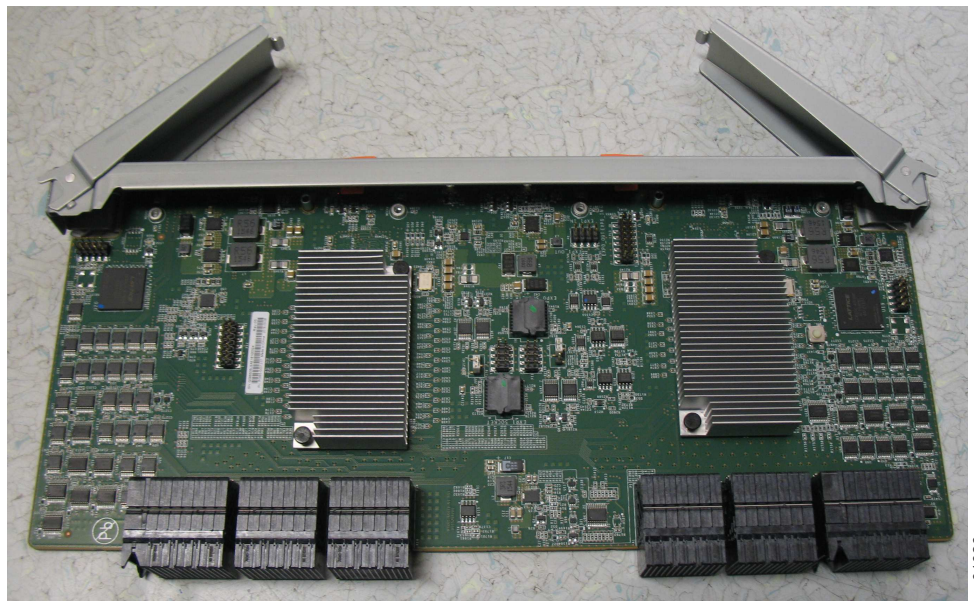

Figure 87. Secondary expander module removed from the enclosure
5. Place the secondary expander module in a safe location, as shown in Figure 87.